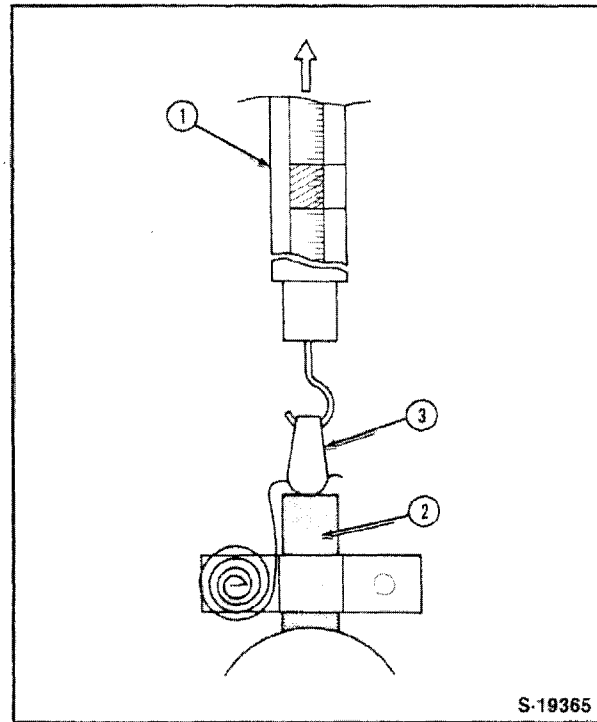

Figure 43
11. Measure the brush spring tension, Figure 43. Replace the springs if they are not within the following limits.